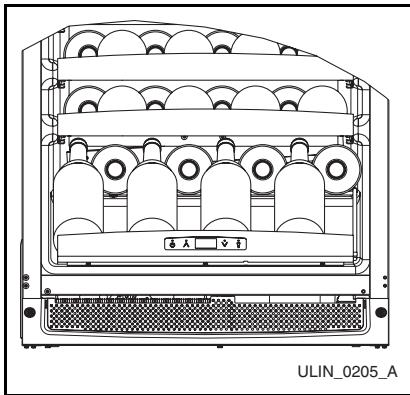

Figure 6
1. The wine racks should be stocked beginning with the lowest rack, at the back, and working forward. Stagger the bottles as shown (Figure 6).